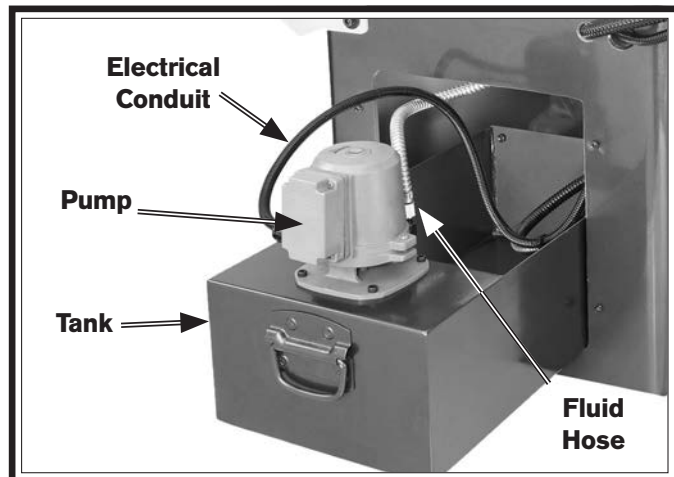

Figure 114. Coolant tank and pump.
2. Remove the vented access cover from the rear of the right stand, then slide the tank out, as shown in **Figure 114**.
6. To enable the remaining fluid to be poured out in the next step, disconnect the fluid hose from the pump (see **Figure 114**).